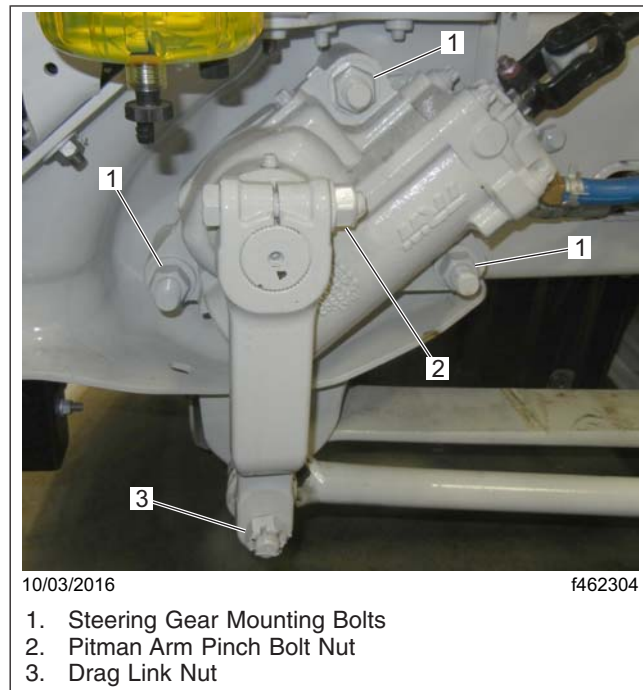

Fig. 25.13, Steering Gear Fasteners
- 6.2 Check the steering gear mounting bolts and pitman arm nut, if equipped, for signs of looseness. See Fig. 25.13.